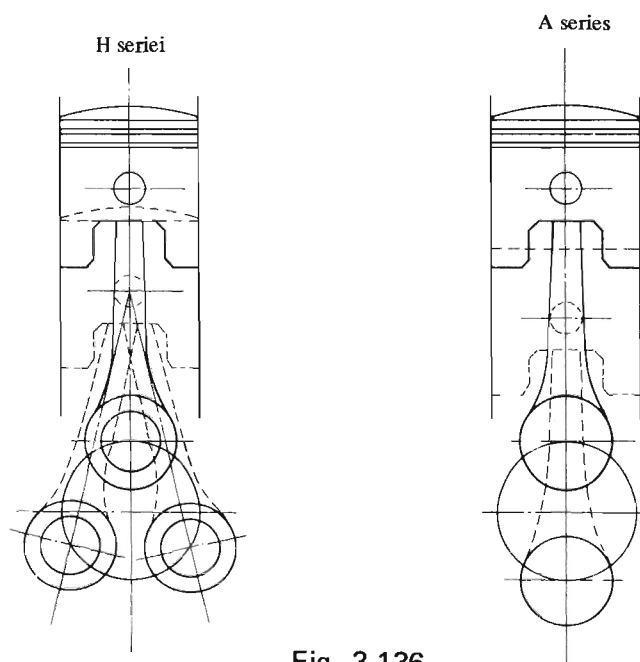

Fig. 3-136
Each connecting rod of H1 is installed at regular intervals of  $120^\circ$  against the single rotation of crankshaft (360) as shown in fig. 3-136